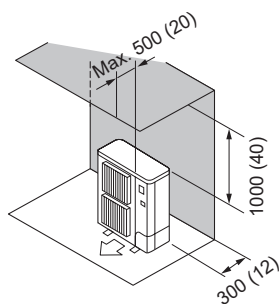

Fig. 2-7
- (2) Obstacles at rear and above only (Fig. 2-7)